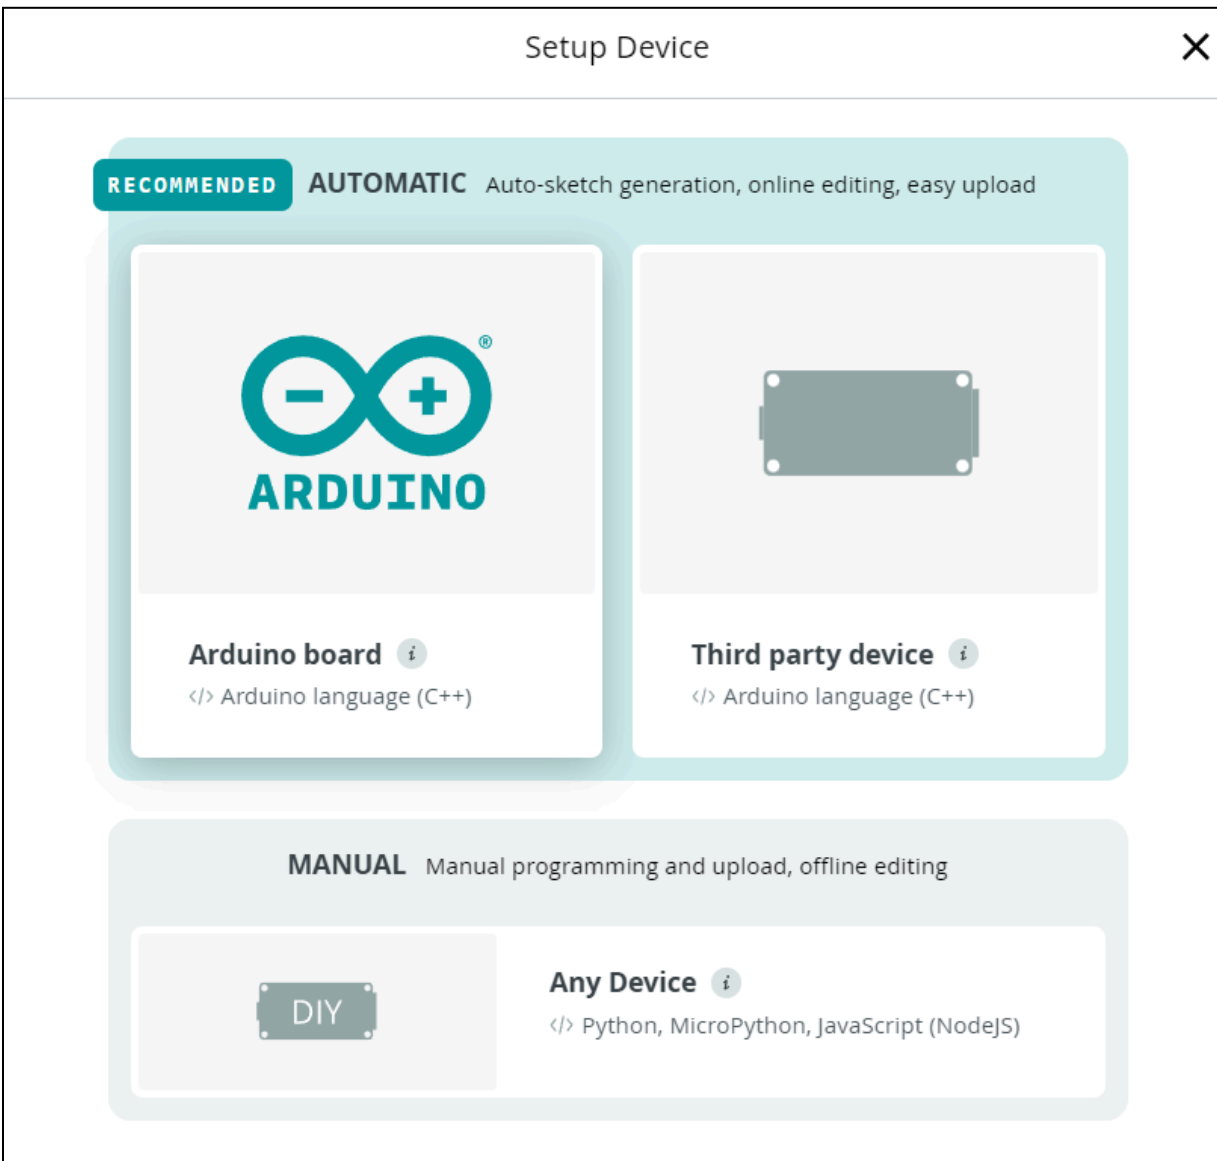

Fig. 7: Device Setup Page
3. Select "Set up a 3rd party device" as shown in Fig. 7.